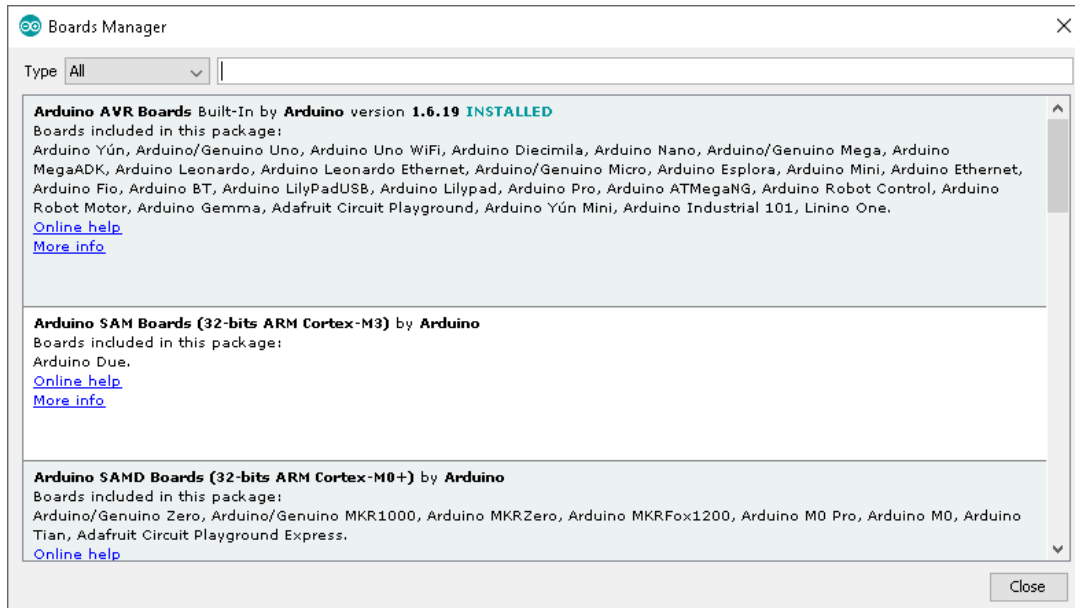
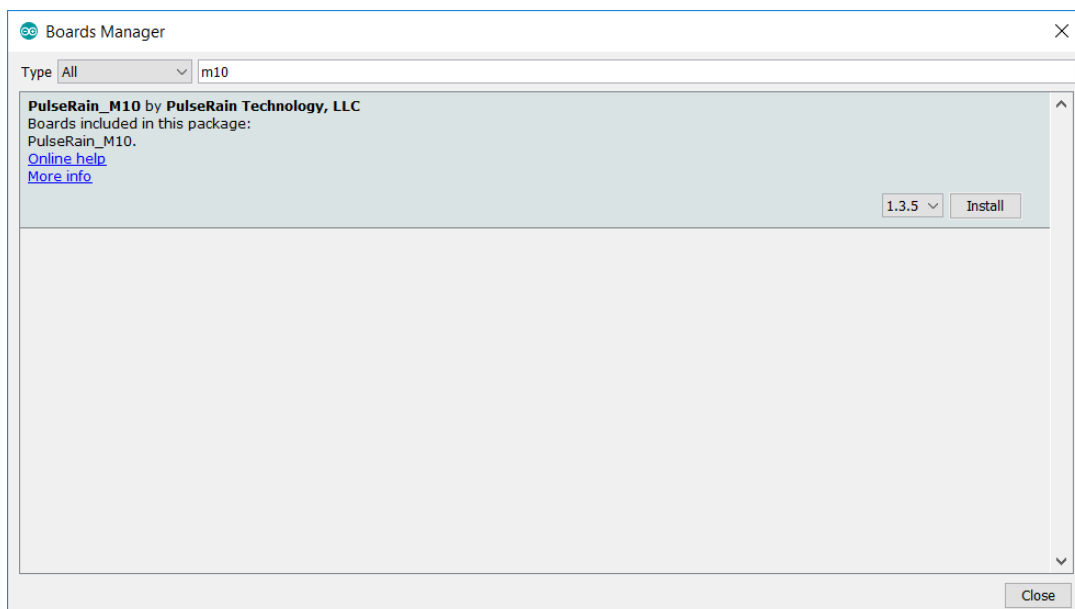

Figure 2-6 Arduino IDE, Boards Manager Dialogue
Figure 2-7 Arduino IDE, Boards Support Package for PulseRain M10
- 5) The "Boards Manager" will bring out a dialogue like the one shown in Figure 2-6. Type in "M10" in the search box to find the board support package for PulseRain M10 board, as illustrated in Figure 2-7. Click "Install" to download and install the board support package.